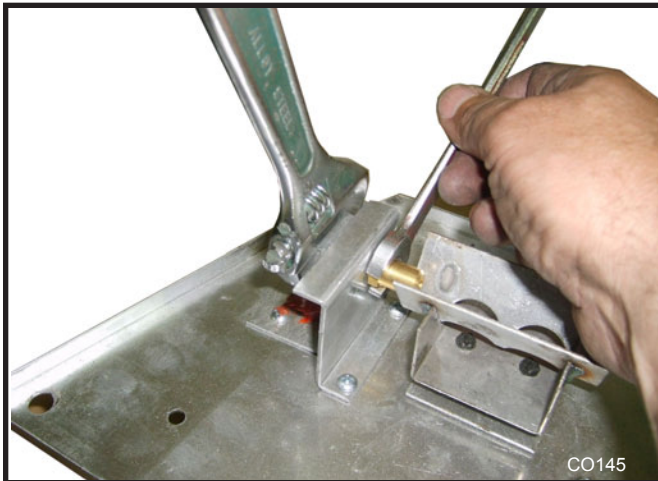

Fig. 82 Use two wrenches to avoid damage to manifold.
3. Remove injector orifice from left burner bracket with a 1/2" wrench. Use a back up wrench to prevent damage to the manifold. (Fig. 82)